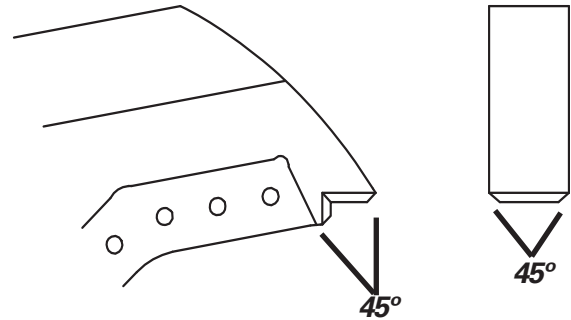

FIGURE 7-46
3. To completely prepare the surface for the new tip, the upper must be chamfered as shown (see Figure 7-46). The chamfer size should be approximately one half the thickness of the tip.